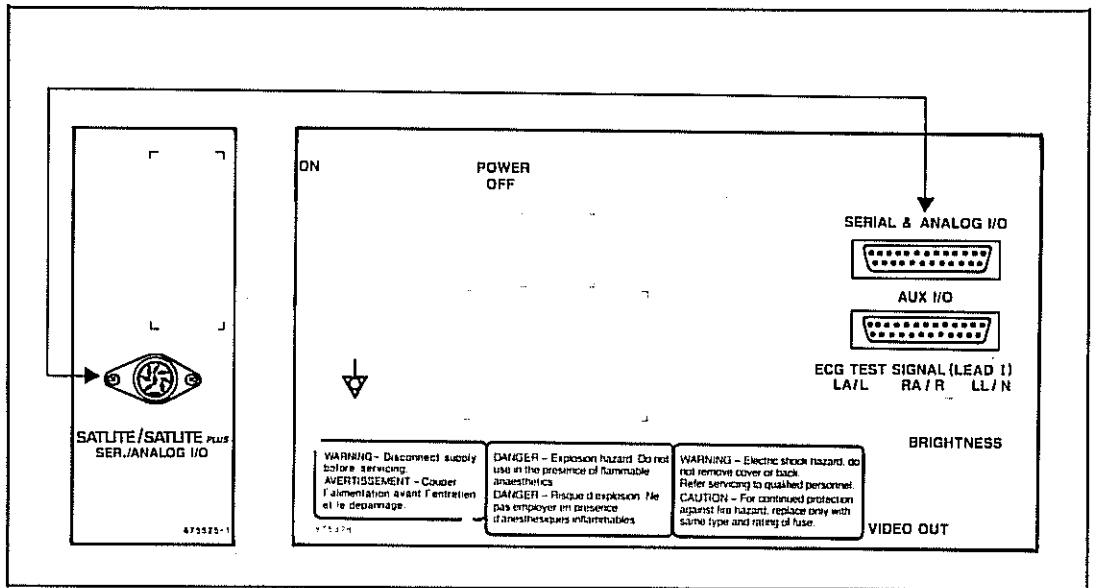
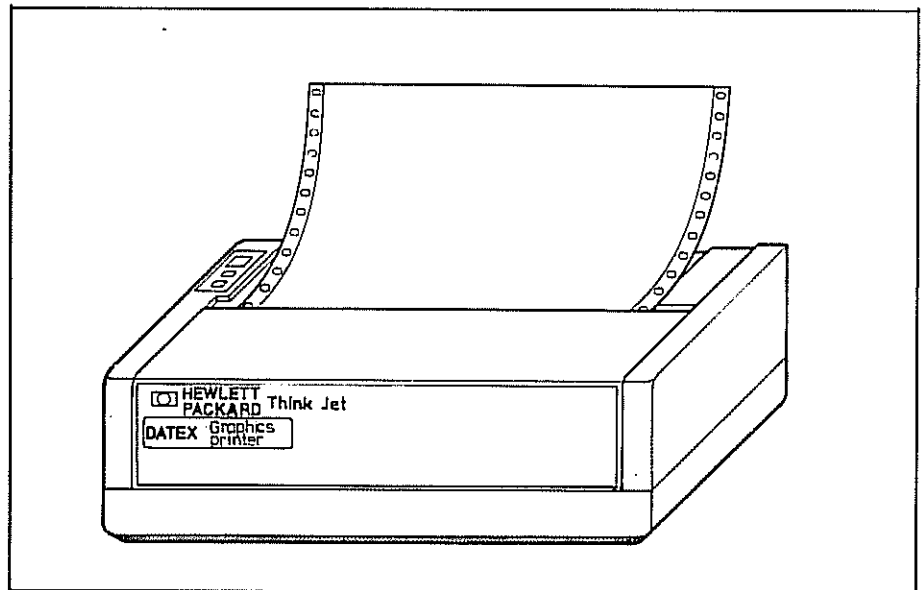

Figure B-2 Rear Panel Connections
Figure C-1 CCP-104 Graphics Printer
The following trends can be printed on the printer paper: HR (PR), SaO₂, pleth amplitude, % O₂, % CO₂, % N₂O and % AA (anesthetic agent). The gas ranges are fixed (0 - 100 % for O₂ and N₂O, 0 - 10 % for CO₂, 0 - 5 % for AA, see Figure B-2). To plot the trends connect the interface cable of CCP-104 Graphics Printer (Figure C-1) to the AUX I/O connector on the rear panel of SATLITE PLUS™. Turn power on both on the printer and monitor, or if printing is started during monitoring, the monitor must be reset by pushing the FREEZE/RESET key for 5 seconds in order to get the calibrated ranges printed on the printout.